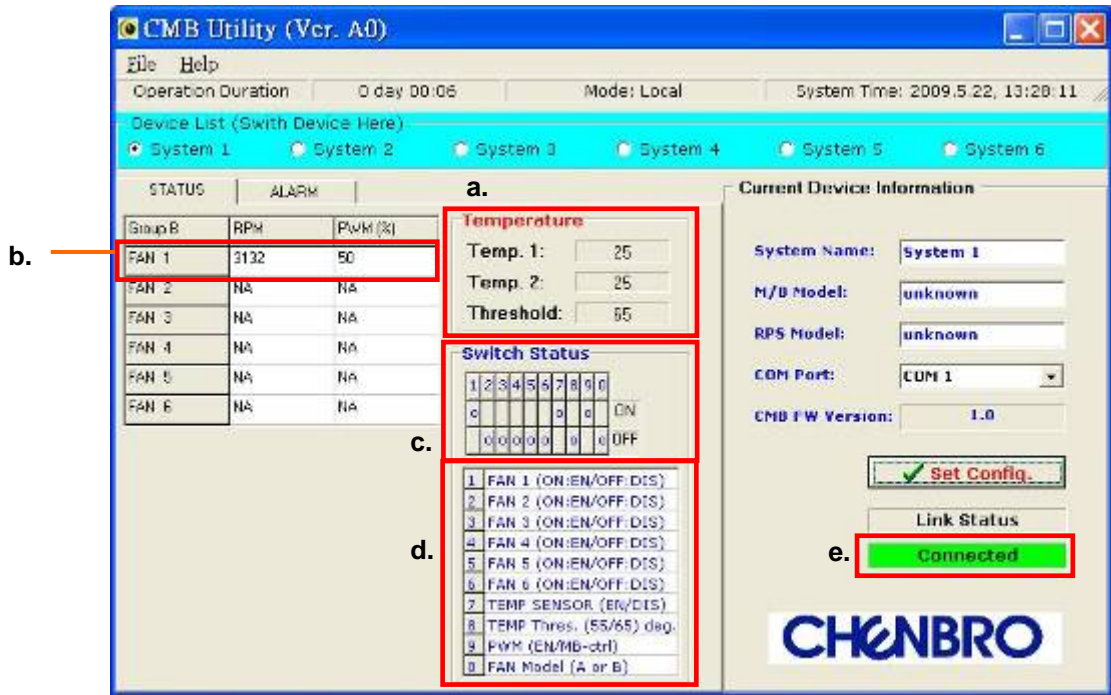
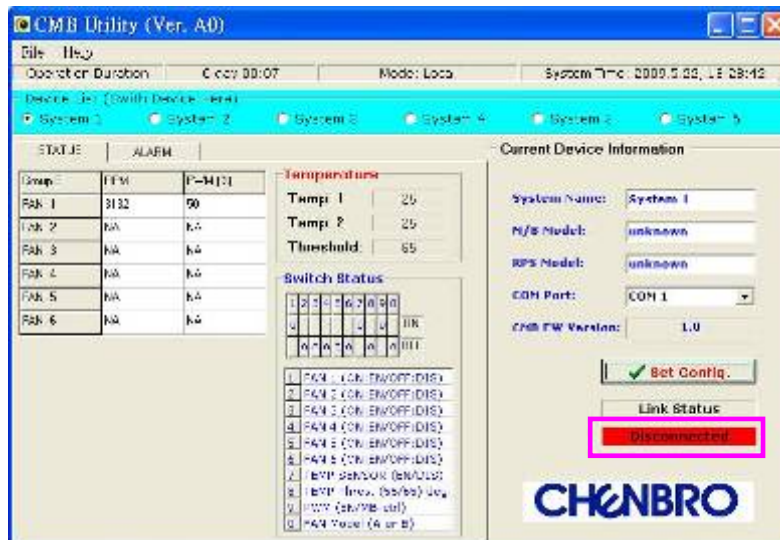

Figure-9
Figure-10
- Temperature monitoring: this area shows the real environment temperature when the thermal sensors are connected and SW1-DIP7 is set to “ON” position. (Showing “NA” when DIP7 set to “OFF”, see Figure-9 a.). The threshold shows the definition of alarm temperature. It’s automatically detected according to DIP8.
When the thermal sensor is not connected, the fan monitoring function will be disabled automatically or PWM fan runs up to 100% mode. (See Figure-9 b.)
- SW1 status: this shows the setting position of SW1 DIP1~10 on CMB. (See Figure-9 c.) Figure-9 d. shows the function description of SW1.
- Link Status: When a CMB is connected to M/B via COM port with this CMB utility operation, a message will show “Connected”, and message “Polling” shows every 3 seconds to check the linking status. (See Figure-9 e.) If there is no cable connection, this status will show “Disconnected”, and all the monitoring function is disabled. (See Figure-10)